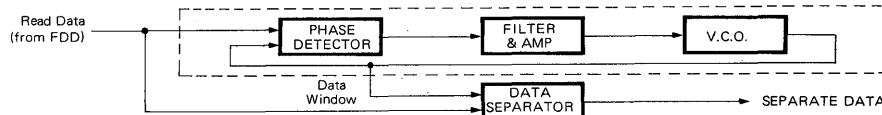

Fig. 1: Data Window Generator
UM9228-1 is used with a external PLL circuit (see fig. 1) to detect the leading edges of the disk data pulse and adjust the phase of the internal clock to provide the data window (DW) clock.